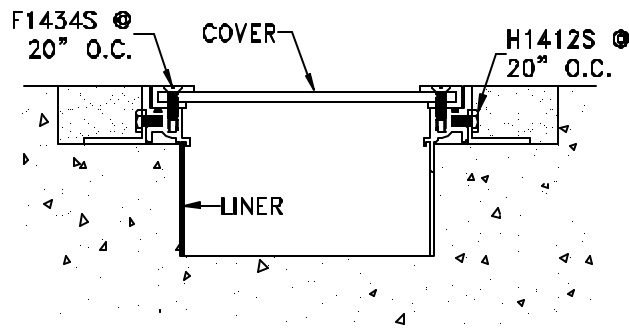
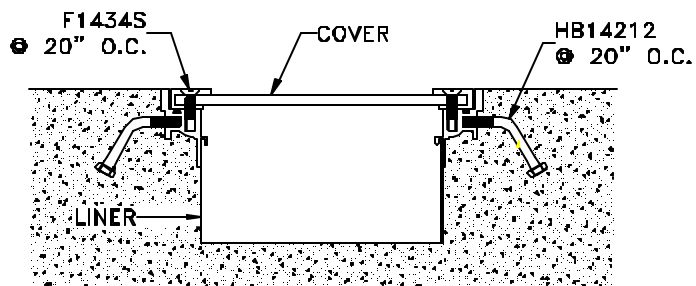

Figure 14
Figure 15
- STEP 25.** Using the fasteners (part no F1434S) provided by the factory, attach the cover plate to the frame (see Figure 14 and Figure 15).